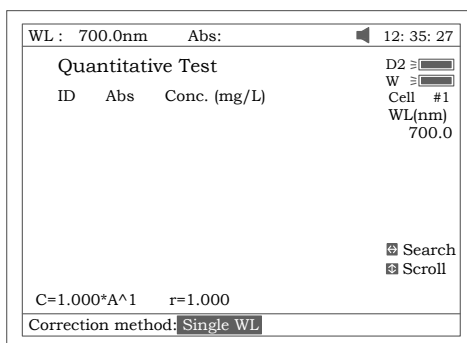

Fig 28
2. Press **【SETλ】** to select correction methods and enter the wavelength. There are three correction methods (single, Isoabsorbance and 3 point, Fig 28)